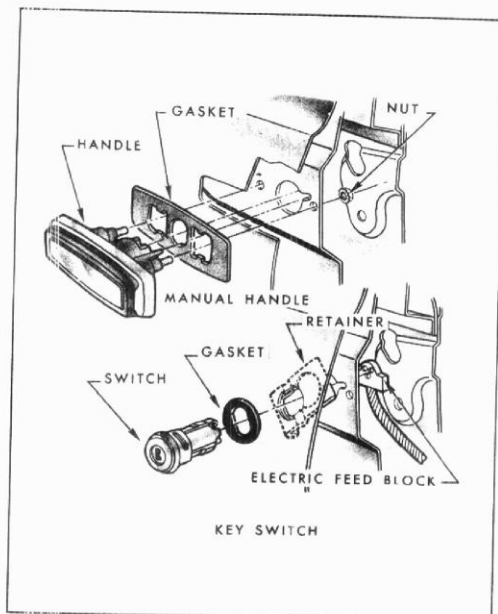

Fig. 9-53-Tail Gate Outside Handle Assemblies
3. On electric styles, remove tail gate window regulator. Disengage key switch retainer and disconnect wire harness from connector on escutcheon (Fig. 9-53).